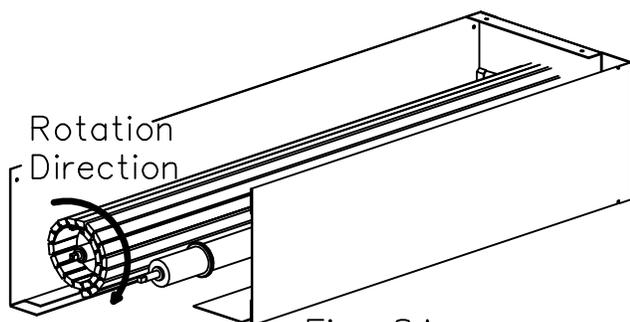

Fig. 8A
8. Rotate door one complete revolution. (Fig. 8A)